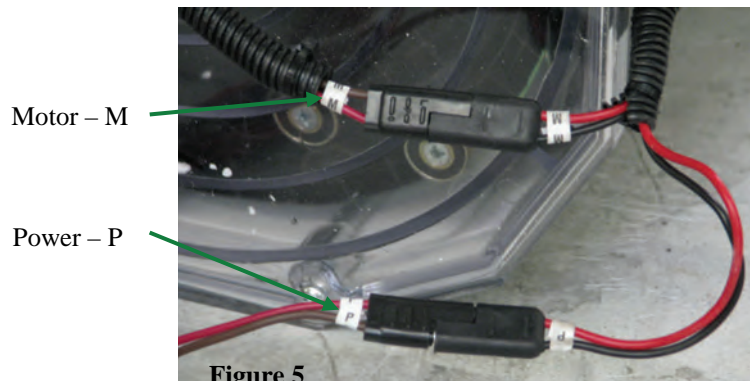

Figure 5
A. There is a white label wrapped with the letter "P" on it to ensure proper connections are made (**Figures 5**). Ensure the connectors labeled P are securely connected. (Connectors labeled "M" will come attached.)